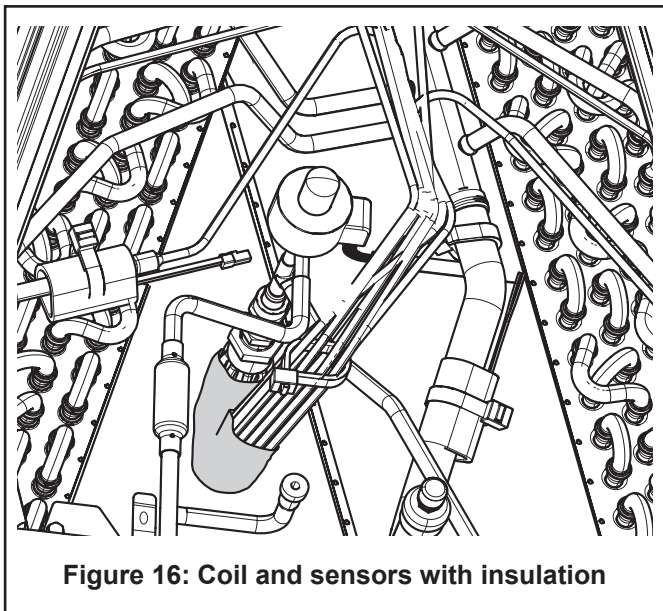

Figure 16: Coil and sensors with insulation
6. If temperature sensors are not the self-insulating type, place supplied insulation over the sensor and secure with tie wrap as shown in Figure 16.